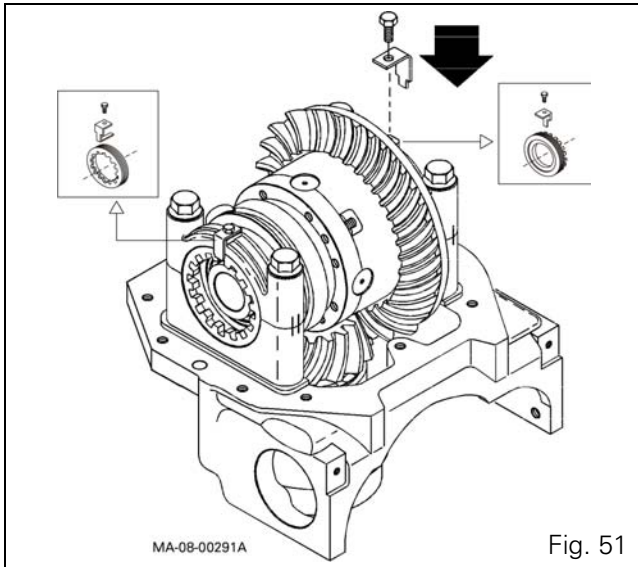

Fig. 51
66. When the shimming procedure is complete, fit the locknuts with their screws and tighten them to 13 Nm using a torque wrench (Fig. 51).